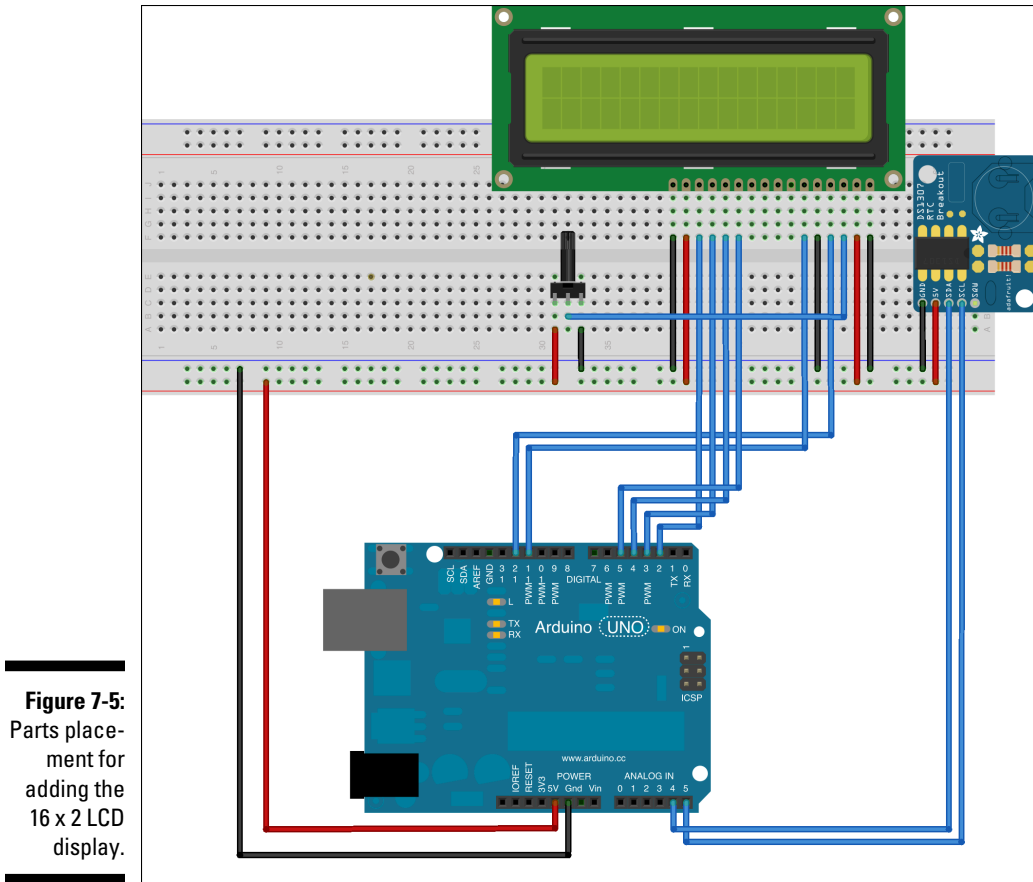

Figure 7-5:
1. **Add your LCD display and potentiometer to your breadboard roughly in the positions shown in Figure 7-5.**
When this code is uploaded, you should see the message “It’s Alive!” displayed for a half-second on the LCD. If you don’t see anything, or if the display has garbled characters, you’ve connected something incorrectly. Go back to the wiring table (shown earlier, in Step 4) and Figure 7-5.